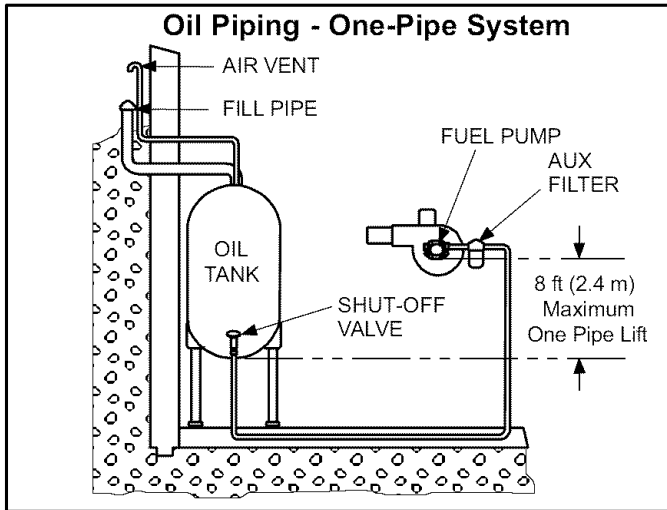

Figure 15
When using a one-pipe system (see figure 15), even with the oil tank that is above the burner and a vacuum of 6" (152 mm) Hg or less, a single-stage fuel pump with a supply line and no return line should be adequate.
2. Arrange the primary burner control for continuous operation during purging (see figure 15).